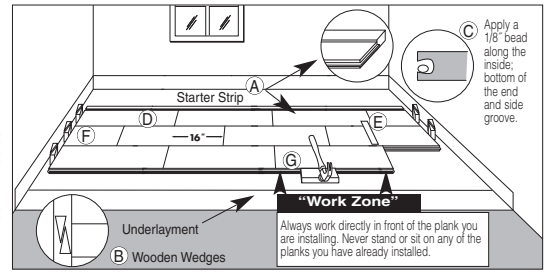

Figure 14
- Select the first board. All installations should begin with the groove side against the wall using the longest boards available. Apply a continuous 1/8" (3 mm) glue bead to the inside; bottom of the groove on the end of the board. Do not apply glue to the groove side at this time (Item C, Figure 14). Products with the end tongue on the left should be installed right to left, opposite tongues should be left to right. (Item D, Figure 14). If a sacrificial board was used DO NOT glue the first row to it.
- Complete the first row. Cut the last board allowing for 1/2" (13 mm) clearance between the wall and the floor. (Use the remaining end of the cut board as a starter board for any row following row three). Install a wedge on the end of the board between the wood flooring and the wall allowing 1/2" (13 mm) expansion space. Avoid installation of any boards shorter than 16" (41 cm) in the first four rows. (Item F, Figure 14).
- Use a pull bar to pull the last board into place from the opposite end. Install wedges into the gap and tighten (Item B, Figure 14).
- Cut or use a shorter board for the first board of the second row. Start the second row by applying a 1/8" (3 mm) bead along the inside, bottom of the end and side groove of the new board. Install the first board of row two. Apply a bead of glue to the inside, bottom of the end and side groove of the next board and install. When installing boards together, use a tapping block against the tongue, not the groove (Item G, Figure 14). Tap the boards into place by tapping with a hammer on the tapping block. DO NOT tap on the edge directly with the hammer. Complete the second row through fourth row using this technique. Insert wedges on the ends as necessary to restrain the movement of the floor.